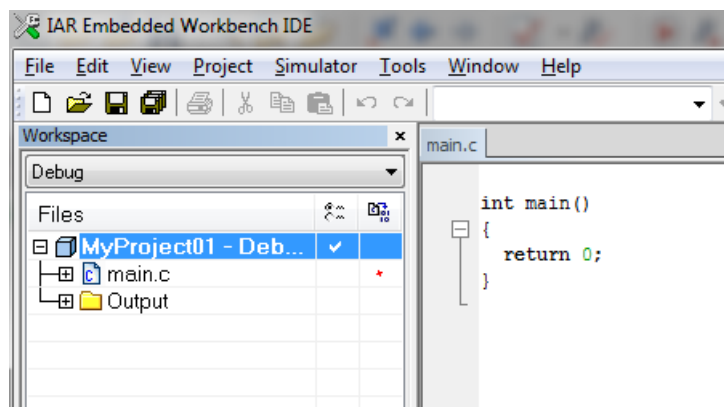

Figure 1-39. New project
4. Navigate to the folder where you want to create the project, for example, C:\IARProjects\MyProject01. Type the name of the project, for example, MyProject01. Click Save, and a new project is created. The new project is now visible in the left-hand part of IAR Embedded Workbench. See Figure 1-39.